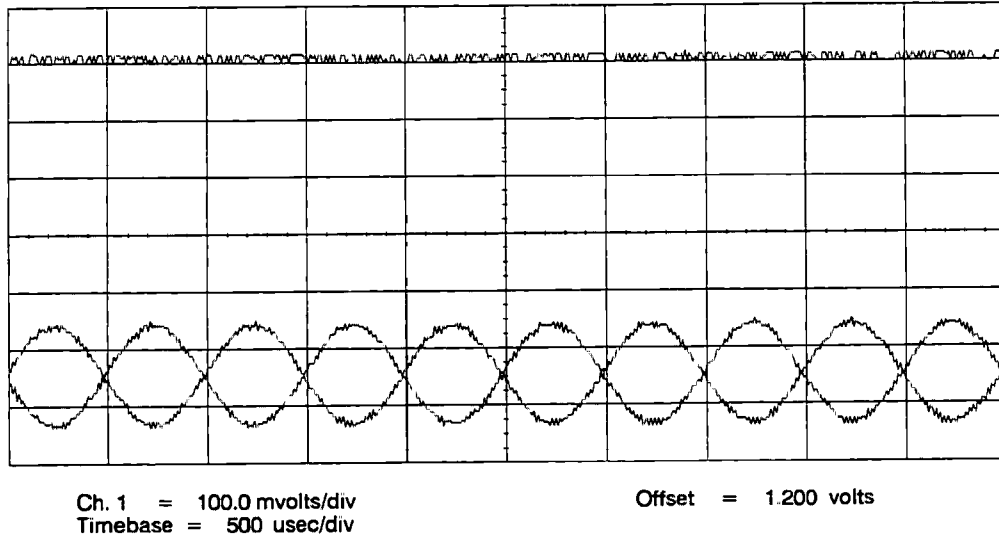
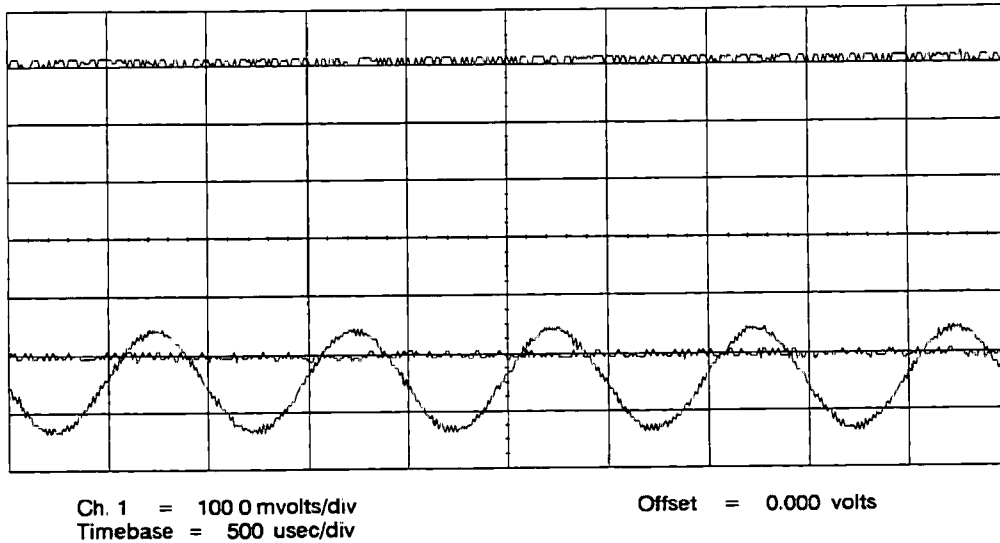

Figure 5-9. R431 and R405 Incorrectly Adjusted
Figure 5-10. R405 Incorrectly Adjusted
- a. If the oscilloscope display looks like figure 5-9, adjust A62 R431 for a flat “noisy” trace as shown in figure 5-10.
- b. If the oscilloscope display looks like figure 5-10, adjust A62 R405 to position the flat trace at the center of the sine wave trace as shown in figure 5-8.